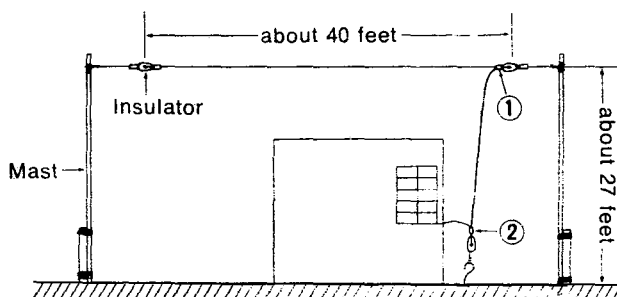

Fig. 2
- Use the easiest way to erect the antenna, by taking advantage of existing vertical structures, poles, etc. (See Fig. 2.)
- After determining the length and height of the antenna, secure the wire at ① and ② shown in Fig. 2, by crimping the metal rings.